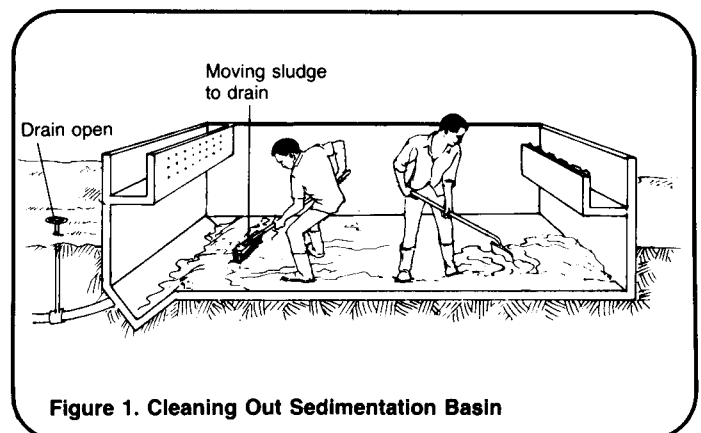

Figure 1. Cleaning Out Sedimentation Basin
- With shovels, buckets, pusher boards and wheelbarrow, remove the sludge from the tank by pushing it out through the drain and carry it away from the site. Figure 1 shows workers removing the sludge from a basin. If a pump and hose are available, flush the sludge off the bottom. Sludge has a high water content and should flow easily from the tank. A board fasten to a pole is useful for scraping the bottom completely clean. Rinse the tank completely before restarting operation.